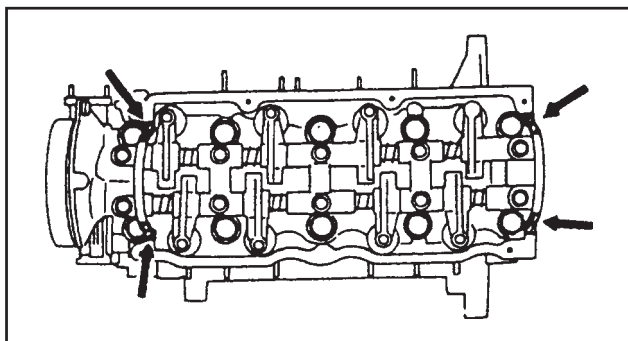

FIGURE 27. INSTALL THE CYLINDER HEAD COVER
17. See FIGURE 27. Apply a gasket sealer to the areas shown by the arrows. Install the cylinder head cover and the gasket. Tighten the capscrews to 3.9 to 5.9 N.m (40 to 60 kgf·cm).